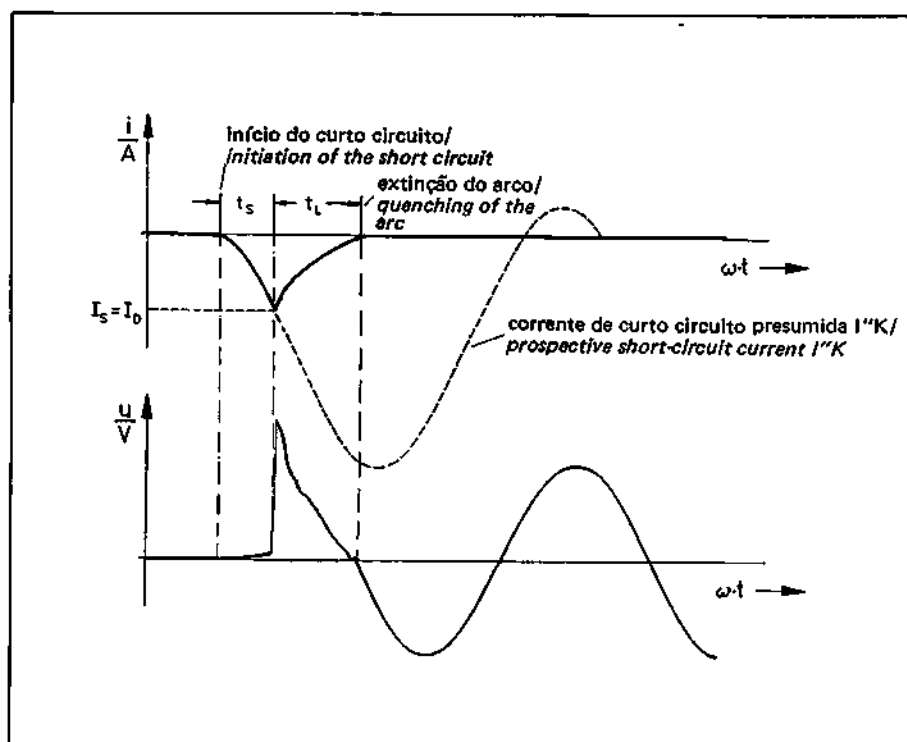

Fig. 6
- **High breaking capacity;** which ensures safe breaking of even extremely high short-circuit currents. See fig. 6.